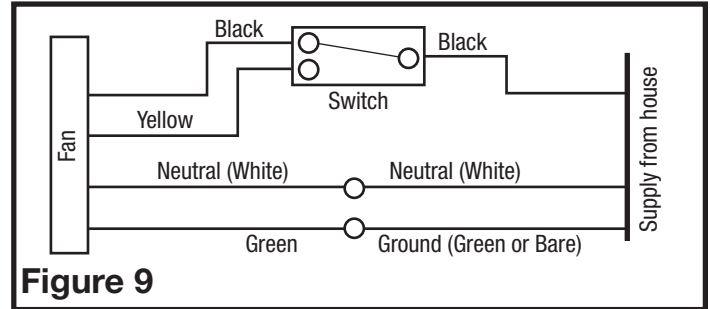

Figure 9
- 3b. From where you have chosen to access the fan's junction box, connect the white wire from the house to the white wire from the fan. Connect the wire from the automatic position on the wall switch to the black wire from the fan, connect the wire from the manual On position on the switch to the yellow wire from the fan. Connect the ground wire from the house to the green wire from the fan housing (Figure 9). Use approved methods for all connections.